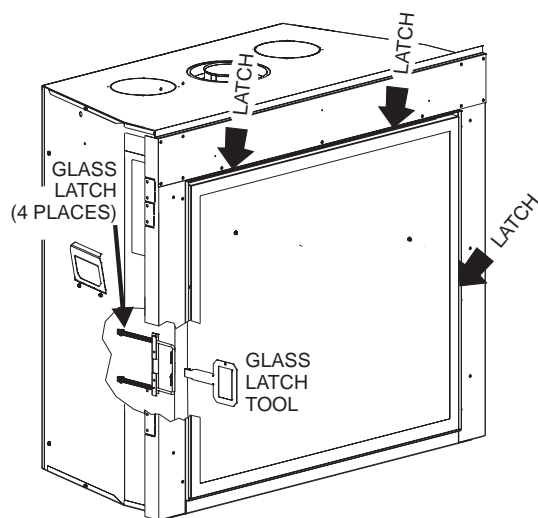

Figure 82
This unit comes standard with two lights that are attached to the roof of the fireplace. To access the light bulb you will remove the following items by removing four screws per light: **See Figure 82.**
- Check all latches or other door retention components for proper operation, tension, and relief mechanisms are free from obstructions. **See Figure 82.**